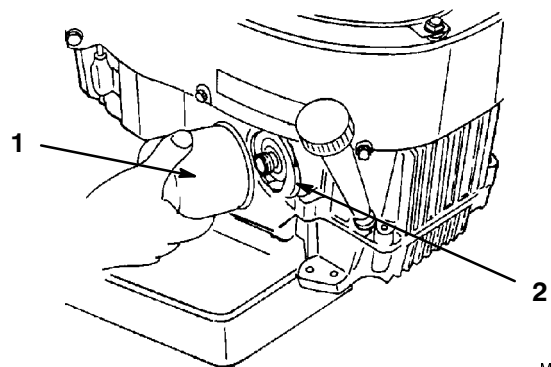

Figure 44
2. Remove the old filter (Fig. 44).
3. Apply a thin coat of new oil to the rubber gasket on the replacement filter (Fig. 44).
4. Install the replacement oil filter to the adapter. Turn the oil filter clockwise until the rubber gasket contacts the filter adapter, then tighten the filter an additional 3/4 turn (Fig. 44).